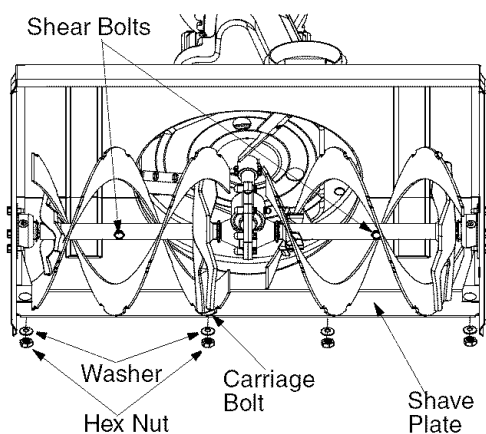

Figure 16
2. Remove the four carriage bolts and hex nuts which attach two skid shoes to the snow thrower on two sides. See Figure 16.
the snow thrower housing. See Figure 16.